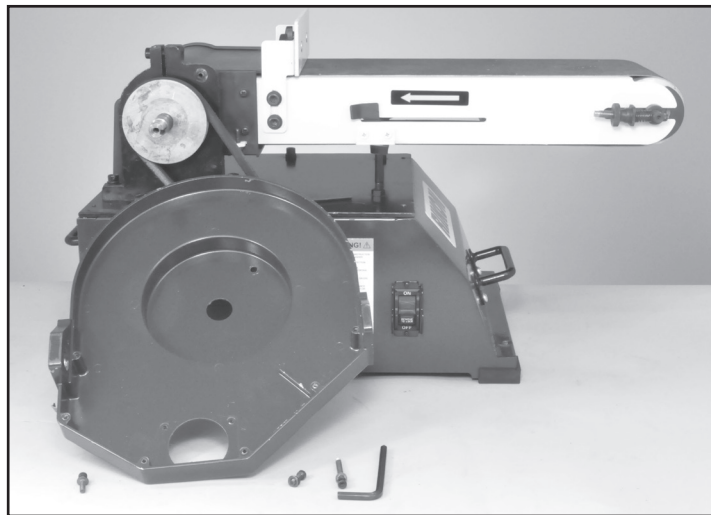

FIG. 22
6. Unscrew the Disc Frame from the sander's cabinet. Remove three screws - two on top of the frame (#38) and one longer screw from the interior of the frame (#91). FIG. 22.